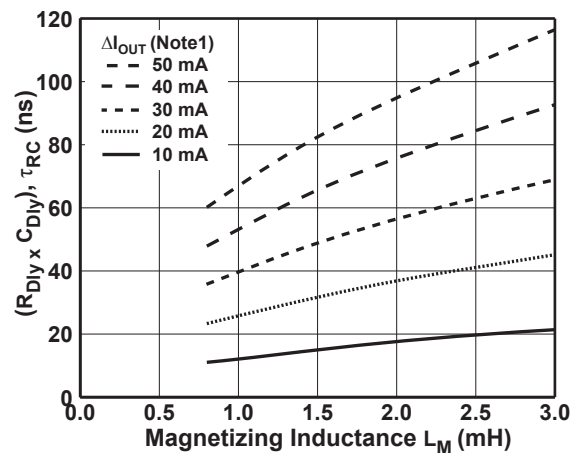

Figure 11.1 :  $T_{ON}$  Compensation Chart
2. Find the curve that best matches this difference from Figure 11.1.